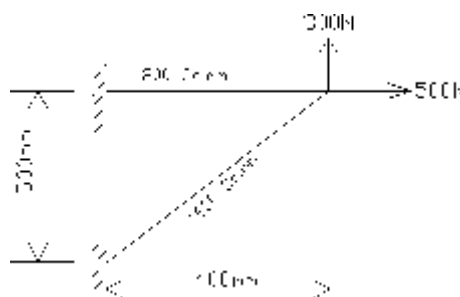

Fig. 3
3. The plane truss shown in Figure 3 having modulus of elasticity $E = 105 \text{ GPa}$. Find